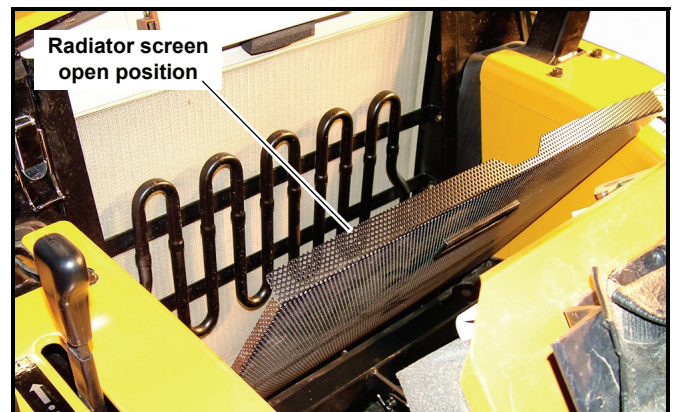

Figure 4-20
6. Open the front screen and remove chaff, dust, or other foreign substances. The foreign substances can be dropped onto the ground through the rubber at the lower part. Figure 4-20